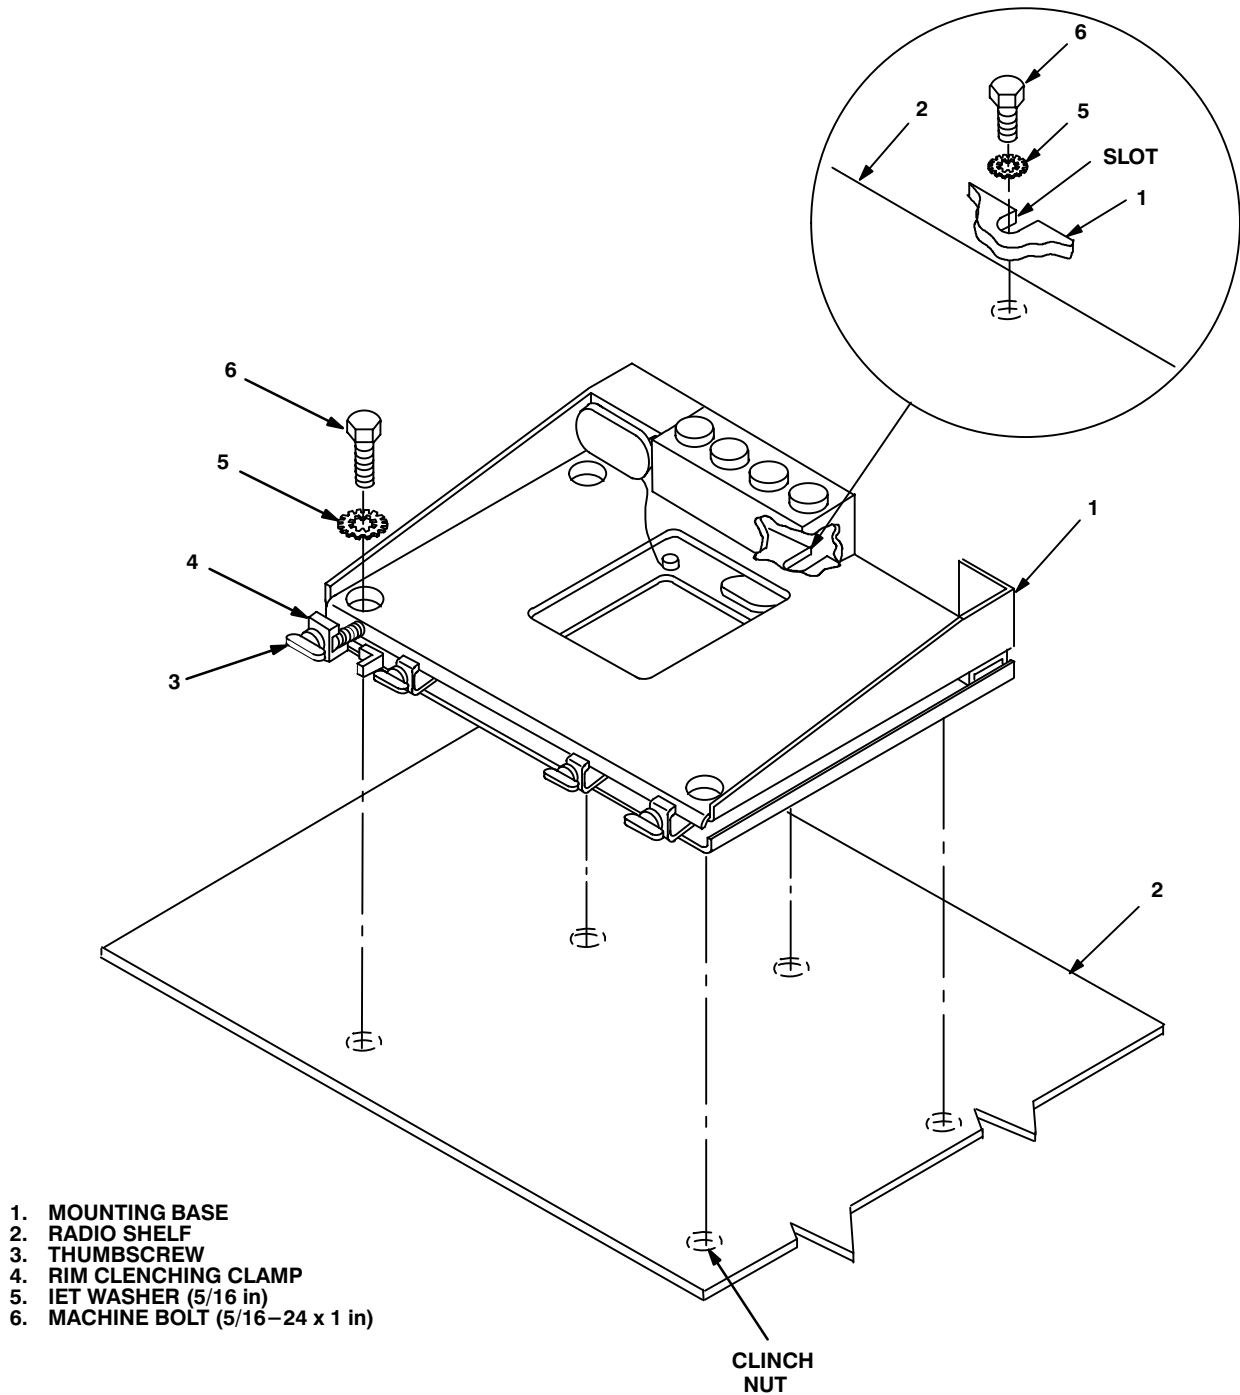

Figure 5-9. Mounting Base Installation
**5.3 Installation of Mounting Base, Electrical Equipment MT-6352/VRC (mounting base).** Remove and retain attaching bag of 5/16 in mounting hardware for installation. To insure good electrical grounding, any rust, corrosion or paint around mounting holes in radio shelf should be removed before installing the mounting base. See figure 5-9 and perform the following steps.